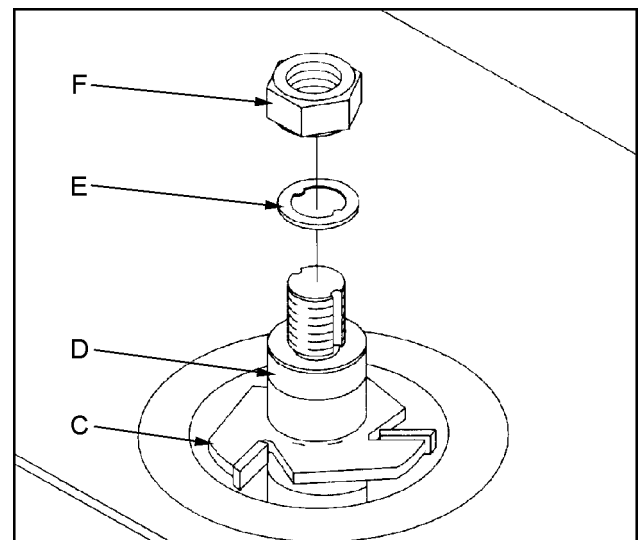

Figure 16
3. Place desired cutter (C, Figure 16) and spindle collars (D, Figure 16) on the spindle as shown in Figure 16.
4. Install keyed washer (E, Figure 16) and tighten nut (F, Figure 16) using supplied wrench.